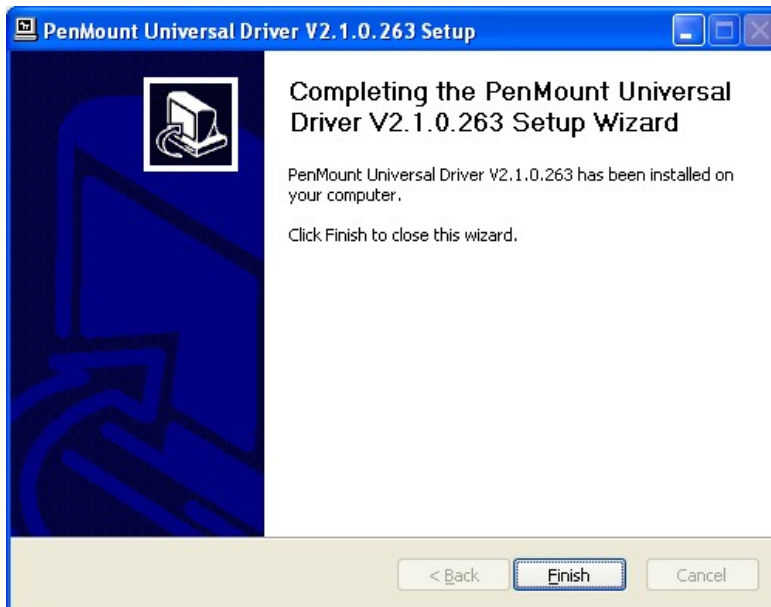

Figure 5-26: Touch Screen Driver Update Complete
Step 12: When the installation is complete, click **FINISH** to exit setup. (Figure 5-26).